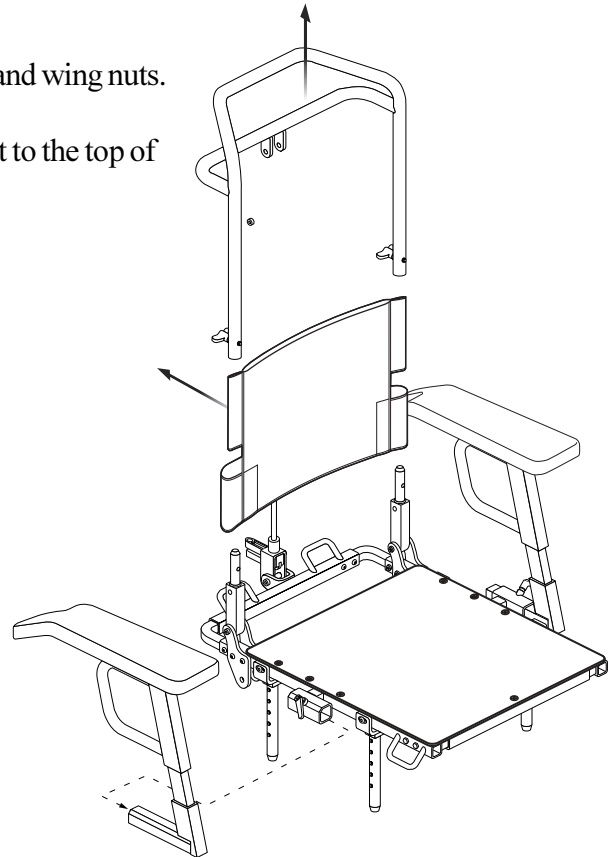

Figure 9a. Slingback Removal
4. Slide the entire seatback up and off of the seat. See figure 9a.